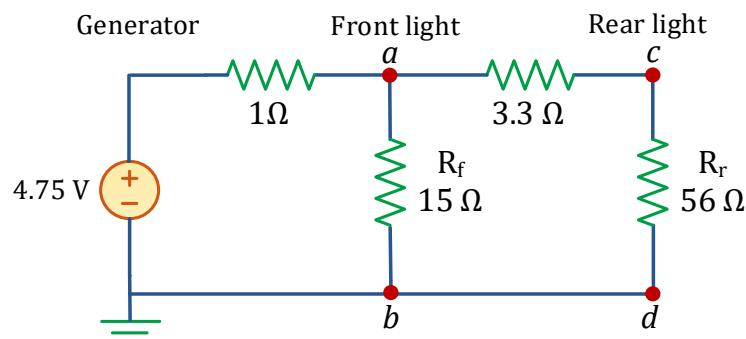

Figure 4.2. Bicycle's lighting system with permanent magnet generator voltage corresponding to a cycling speed of 20 km/h.
Build the circuit of Figure 4.2 on your breadboard, where  $R_r$  is the load resistor.
- B.1** Adjust the output voltage of the DC power supply to approximately 4.75 V (with  $\pm 0.1$  V tolerance), as per Figure 4.2, and set the **current limit** to **1.3 A**. Then, measure the voltage across  $R_r$ , and the current through it, and calculate the power consumed. Record your measurements in the Table below.
⚠ DO NOT dismantle the circuit of Figure 4.2, since it will be used in the following sections. Simply, build the Thevenin equivalent circuit next to the circuit of Figure 4.2.
**B.5** Consider the same circuit as in Figure 4.2. Measure the **short-circuit current** between terminals  $c$  and  $d$  (where  $R_r$  was connected). What does this current represent?
- B.7** Consider the same circuit as in Figure 4.2. Replace the rear light resistor  $R_r$  with the values given in the Table below. Measure the voltage across  $R_r$  ( $v_L$ ) and the current flowing through it ( $i_L$ ), and then calculate the power consumed ( $P_L$ ). Complete the Table below.